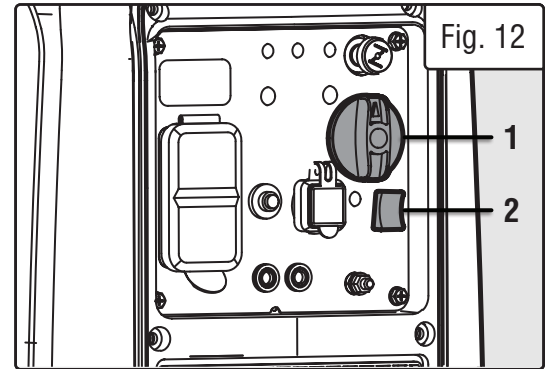

Fig. 12
3. Turn the FUEL SWITCH (Fig. 12 - 1) to the OFF position.
2. Turn the MANUAL SHUTOFF switch (Fig. 12 - 2) to the OFF position. Hold the switch in the OFF position for about six seconds until the engine shuts off.